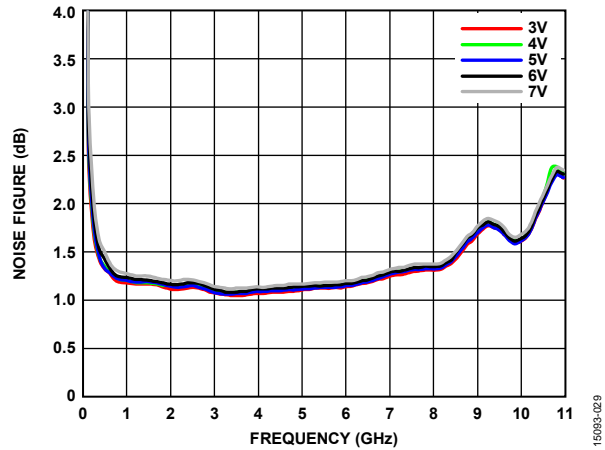
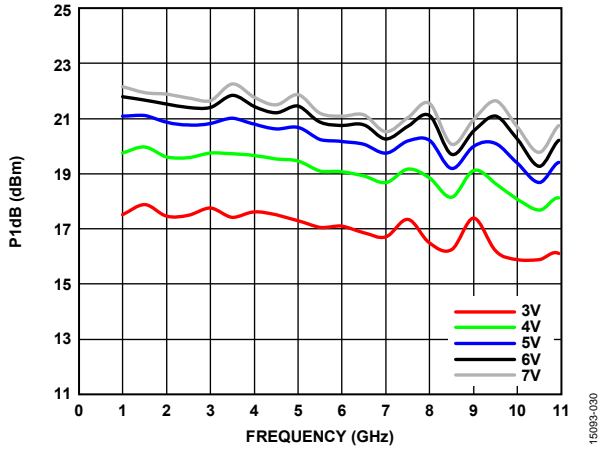
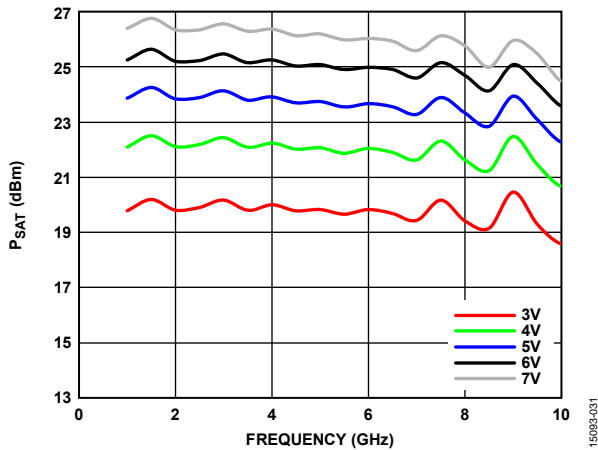

Figure 29. Noise Figure vs. Frequency for Various Supply Voltages, $I_{DQ} = 65\text{ mA}$
Figure 30. P1dB vs. Frequency for Various Supply Voltages, $I_{DQ} = 65$ mA
Figure 31. P_{SAT} vs. Frequency for Various Supply Voltages, $I_{DQ} = 65$ mA
Figure 29, Figure 30, and Figure 31 show that increasing the voltage from 3 V to 7 V typically increases P_{1dB} and P_{SAT} at the expense of power consumption with minor degradation on noise figure (NF).